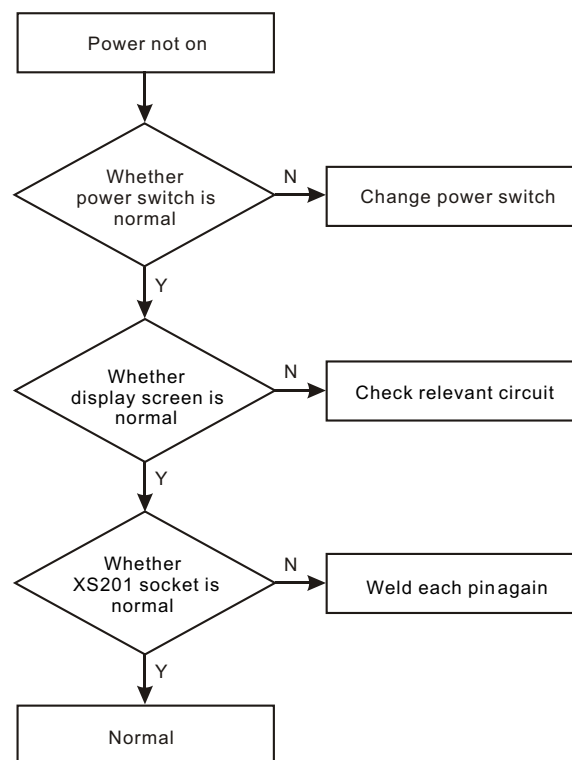

Figure 3.3.2.3 Troubleshooting flow chart for “Power not on”
4. Troubleshooting process for "Not read disc" is shown in the figure 3.3.2.4: